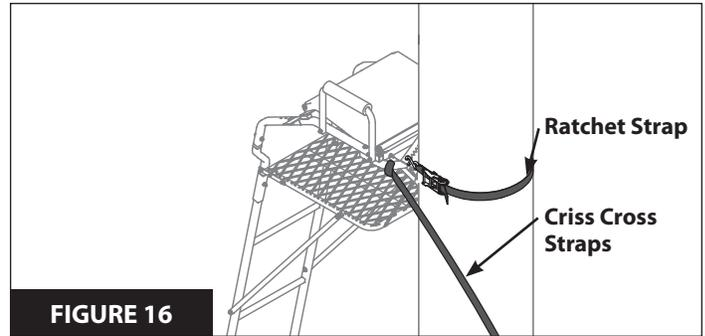

FIGURE 16
8. a. Standing on ladder step, lean toward tree with ratchet strap now in hand, Hook "S" hook with long strap through hole provided on tree blade. Feed the long strap through the center (slot) of ratcheting mechanism and back around through tightening lever. **SEE FIGURES 16, 17A AND 17B.**